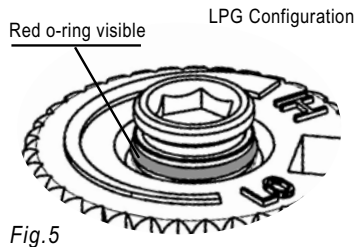

Fig.5
19) Verify that if the conversion is from NG to LPG, the screw must be re-assembled with the red o-ring visible (Fig. 5).